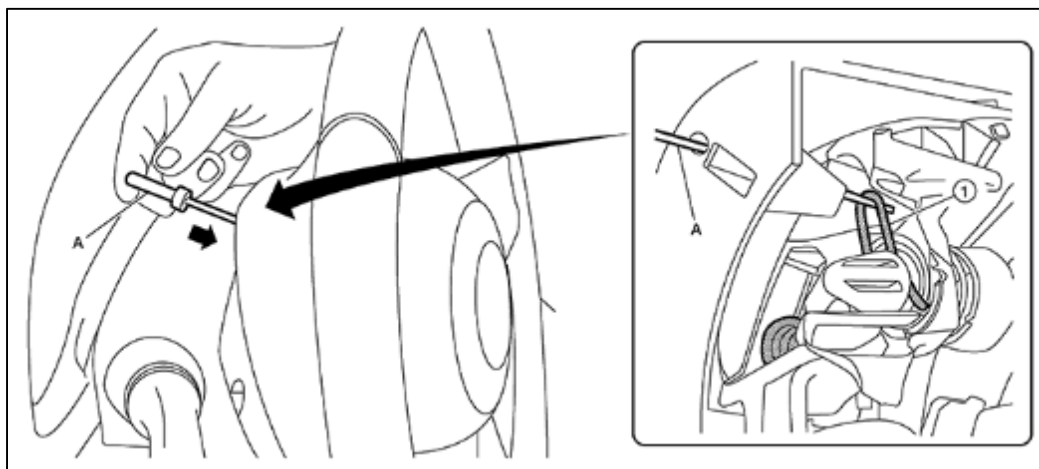

Figure 4
5. Insert the Airbag Release Tool (A), into the access hole and under the spring (1), as shown in Figure 4.